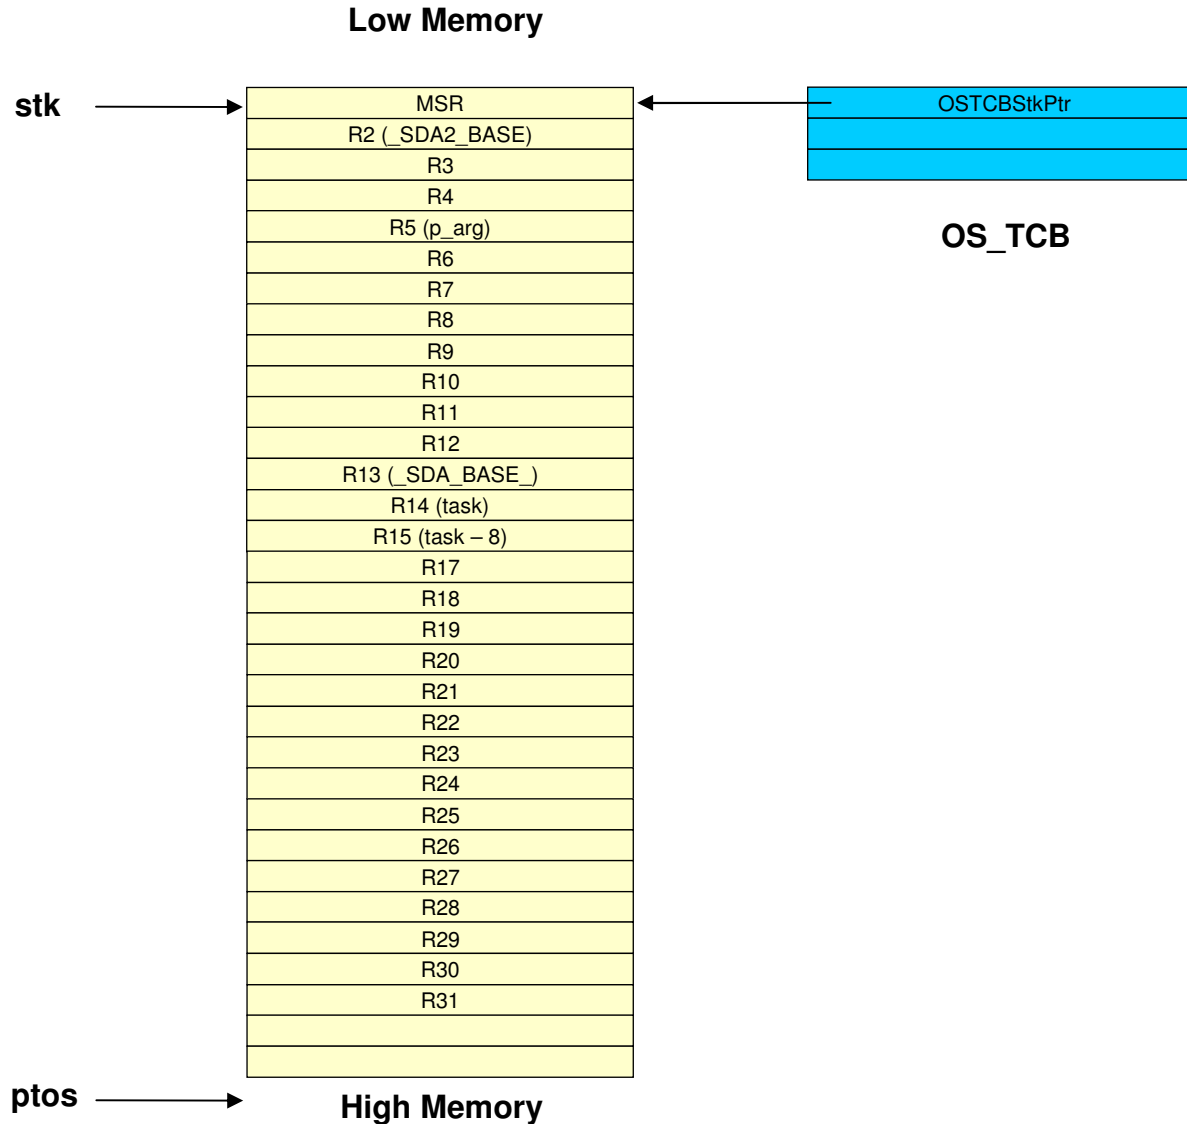

Figure 4-1, The Stack Frame for Each Task
Figure 4-1 shows how the stack frame is initialized for each task when it's created.
- L4-4(2) The **μC/OS-II** flag `OSRunning` is set to `TRUE`, indicating that **μC/OS-II** will be running once the first task is started.
- L4-4(3) We then get the pointer to the task's top-of-stack (was stored by `OSTaskCreate()` or `OSTaskCreateExt()`). See Figure 4-1 (`stk` is stored in the `OS_TCB` of the created task).
- L4-4(4) We then load all the registers from the task's stack (except `R0` and `R1`). `R0` is never stored because it always contains `0x0000,0000`. `R1` is actually the Stack Pointer (`SP`), which was stored in the `OS_TCB` of the task. Note that we used `STK_OFFSET_???` labels instead of hard-coding numbers for stack offsets. This allows us to easily change where registers are placed on the stack frame. `STK_OFFSET_???` labels are declared at the beginning of `os_cpu_a.s`.
- L4-4(5) When the task is created, `OSTaskCreate()` or `OSTaskCreateExt()` places the starting address of the task in `R14`.
- L4-4(6) When the task is created, `OSTaskCreate()` or `OSTaskCreateExt()` places the argument to pass to the task in `R5`.
- L4-4(7) The last value that was added to the stack by `OSTaskStkInit()` is placed in the `MSR`. Subsequently, `R3`, which was used as a temporary location for this stack entry, is loaded with the appropriate data.
- L4-4(8) The stack frame is then cleaned up by moving the stack pointer up by the number of bytes used to store all the registers. We add this number to the stack pointer since those registers are now in the CPU.
- L4-4(9) We finally perform a return from interrupt, which will cause the MicroBlaze to start executing the task's code. This instruction ALSO sets the `IE` bit in the `MSR` register to 1, enabling interrupts for the task.
- L4-4(10) A NO-OP instruction is inserted to fill the delay slot.